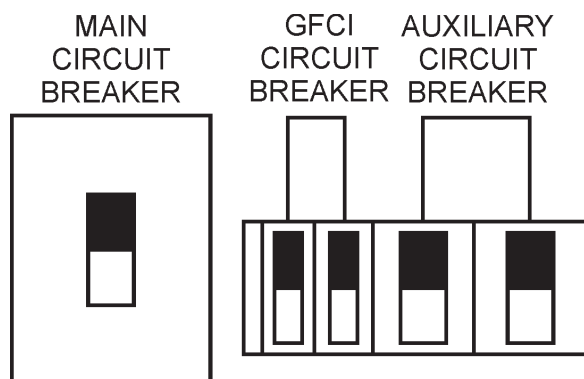

Figure 51. Main, AUX. and GFCI Circuit Breakers (ON)
17. Turn the **main**, **GFCI**, and **aux.** circuit breakers to the “ON” position (Figure 51).